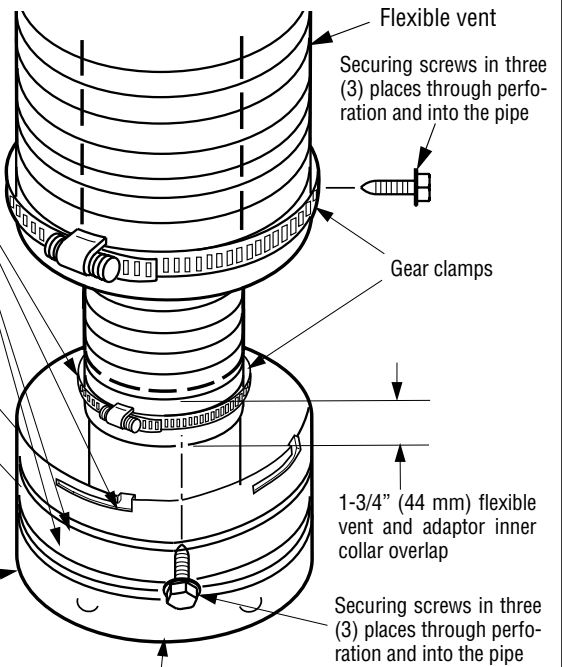

Figure 25
**NOTE:** Secure Flex® components can be purchased separately and attached to bulk lengths of Secure Flex flexible vent cut to size at the job site. Attach the flexible vent to the Secure Flex terminations as it was attached to the adaptor (Figure 25).